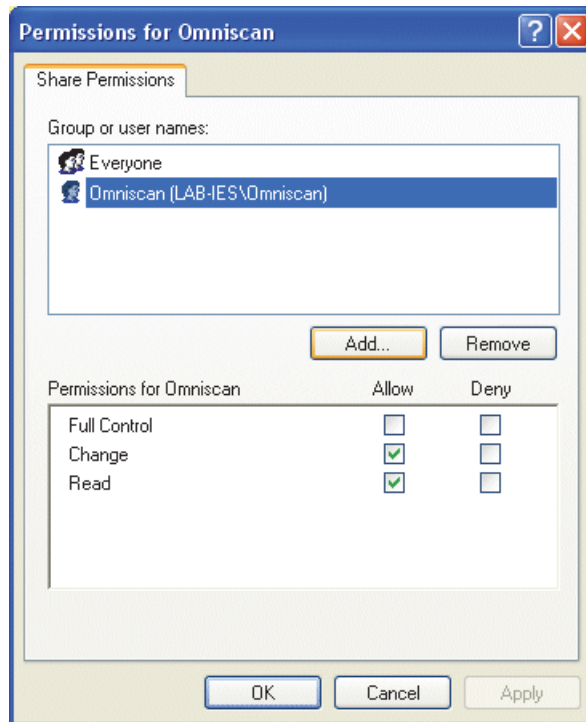

Figure 14-10 The Permissions for Omniscan dialog box (Windows XP)
6. In the **Omniscan Properties** dialog box, click the **Permissions** button. The **Permissions for Omniscan** dialog box appears (see Figure 14-10 on page 304).